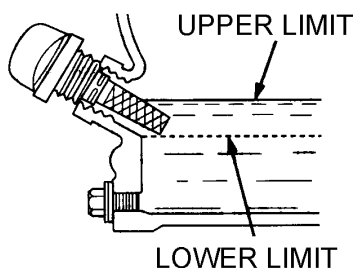

Figure 7. Engine Oil Dipstick (Oil Level)
4. If the oil level is low (See Figure 7), fill to the edge of the oil filler hole with the recommended oil type (Table 4). Maximum oil capacity is 1.16 quarts (1.1 liters).